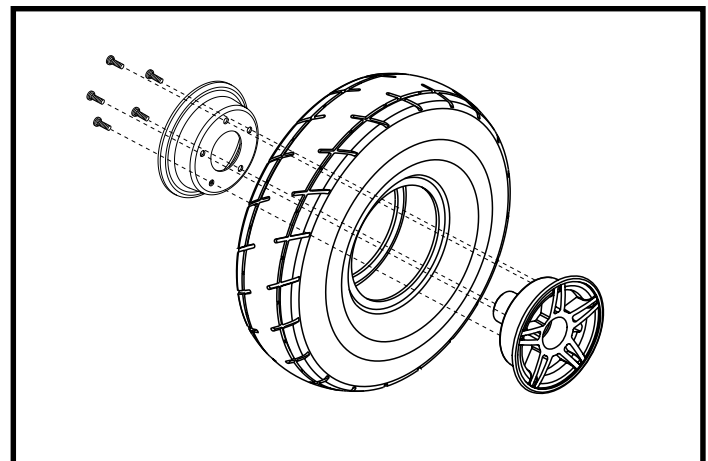

Figure 25. Jet 10 Ultra Drive Wheel
6. Remove the screws that fasten the two rim halves together. See figure 25.